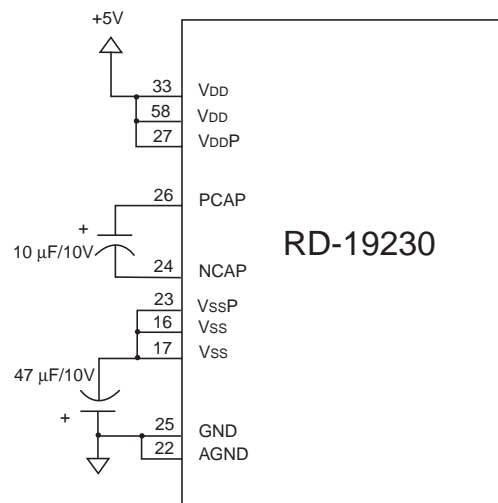

FIGURE 5. -5V INVERTER CONNECTIONS
6) Using the -5V Inverter will eliminate the need for a -5 V supply. Refer to FIGURE 5. for the necessary connections.